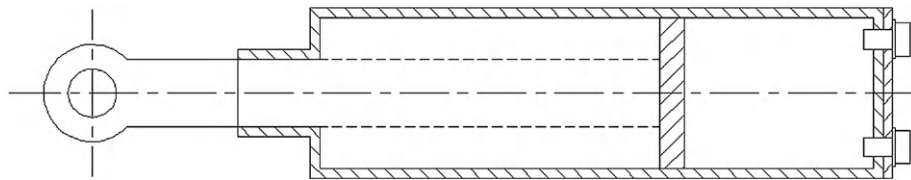

FIGURE 8.30
- Step 10.** Add the bolt projections, as seen in Figure 8.30 (the depth into the side view can be approximated). Finally, add hatch patterns, using the Angle option to reverse the hatch directions, which is a common technique in mechanical design to differentiate the parts from each other in a cross section.